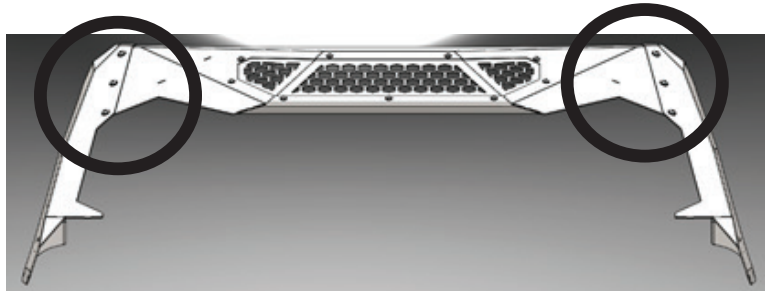

Figure 23
23. Hand tighten both ViCowl arms (21830, 21831) to the visor (21833) using the six (6) 3/8"-16 yellow zinc, hex cap screws and rubber bonded washers provided in the hardware kit. (50172-HW) (Figure 23)